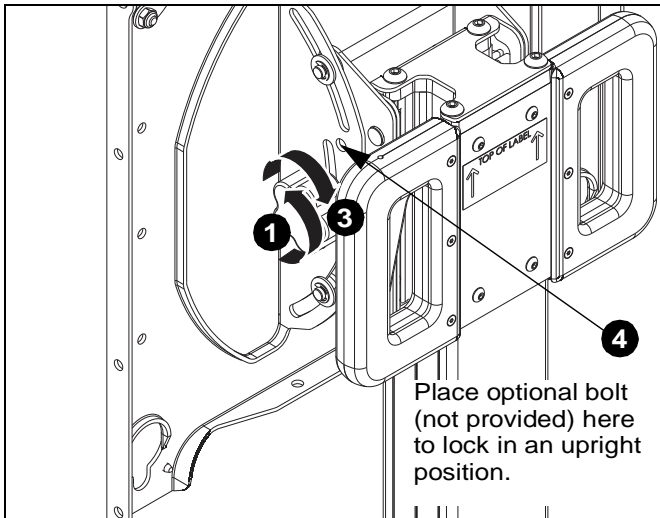

Figure 10
1. Turn knob counterclockwise on side of head assembly to loosen the tilt. (See Figure 10)
3. Turn knob clockwise to tighten display on head assembly. (See Figure 10)
4. If leaving the display in a straight upright position, it is recommended that a bolt (not provided) be placed through the head assembly (See Figure 10) to lock the display into the upright position.
1. Cables may be run down either side of the stand within the cable management flaps. (See Figure 10)